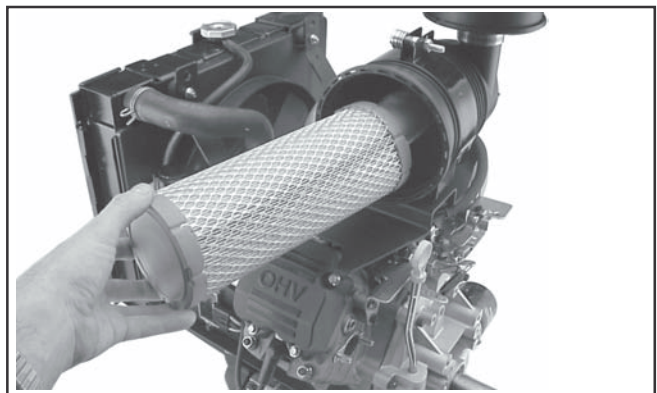

Figure 16. Removing Air Cleaner Element.
2. Pull the air cleaner element out of the housing. See Figure 16.